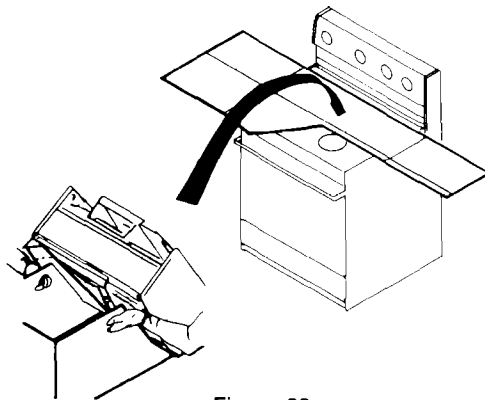

Figure 23
2. Lift oven and carton onto top surface of range using handholes in carton. (See figure 23.)